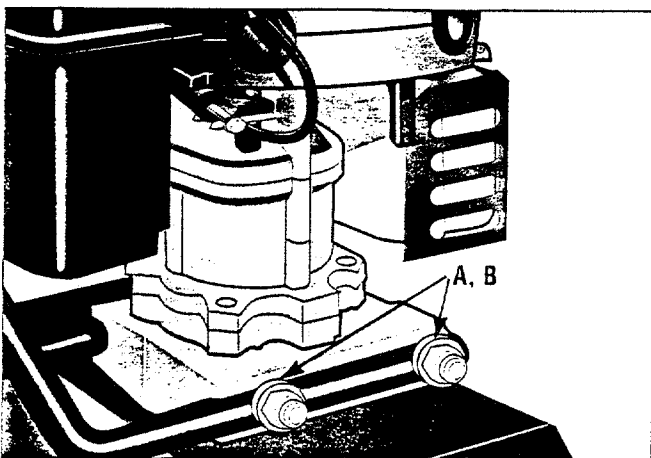

Figure 4: Install Lower Right Handlebar. Secure with two flat washers (A) and two locknuts (B).
5. Place the lower right handlebar over the ends of the screws on the right side of the transmission. See Figure 4. Add a flat washer (A, Figure 4) and locknut (B) to each screw.